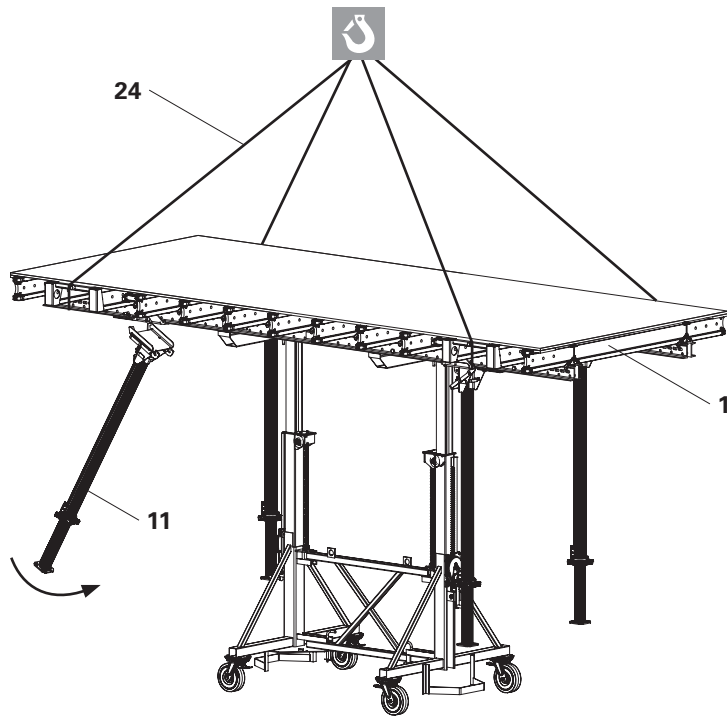

Fig. A2.04
5. Repeat Steps 3 and 4 on the remaining MULTIPROPS MP (11). (Fig. A2.04)
6. Transport slab table (1) to place of use.